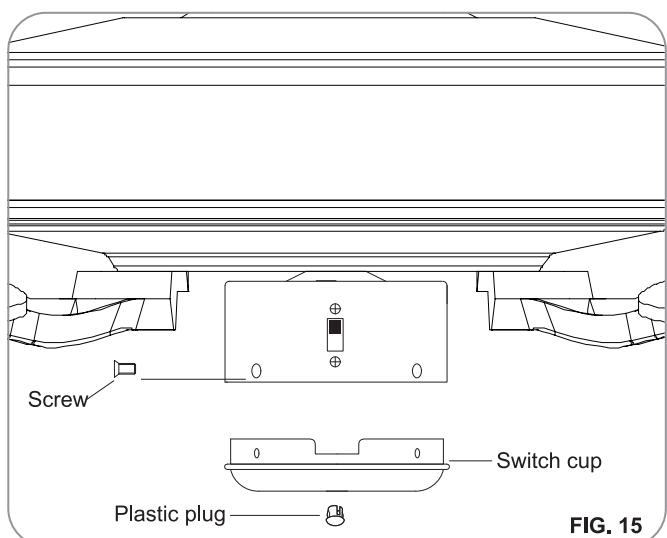

FIG. 15
Step 2. Attach the plastic plug provided from loose parts bag to the switch cup. (Fig.15)
Step 3. Install the switch cup to the switch house with the screws previously removed. (Fig.15)